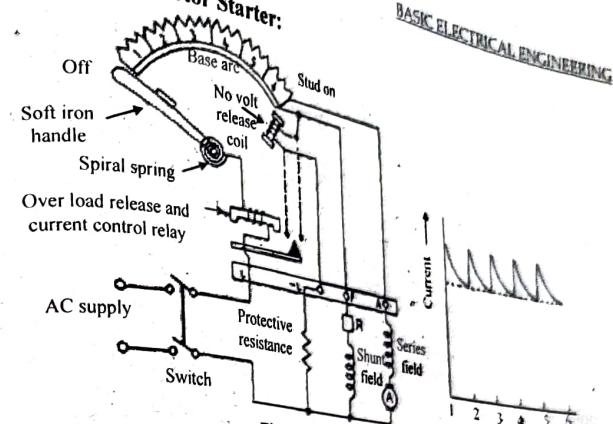

Fig. 1
It essentially consists of a rheostatic resistance, divided into several sections through studs (fig. 1). To start the motor, the D.C. supply is switched on and the starter handle is swiftly moved from the 'OFF' position to "ON" position at stud No 1, so that the total resistance of the rheostat comes in series with the armature circuit and the current in armature is low. As the motor picks up speed, the armature develops back emf, and consequently, the current in it falls. Hence the handle is moved over in steps to reduce the series resistance. At each step, the current in armature falls, and then rises as shown in fig (2) above. Finally, when the handle is in the 'ON' position, there is no resistance in series, and the armature is connected directly to the supply line. In addition to rheostatic resistances, following to protective devices are provided: